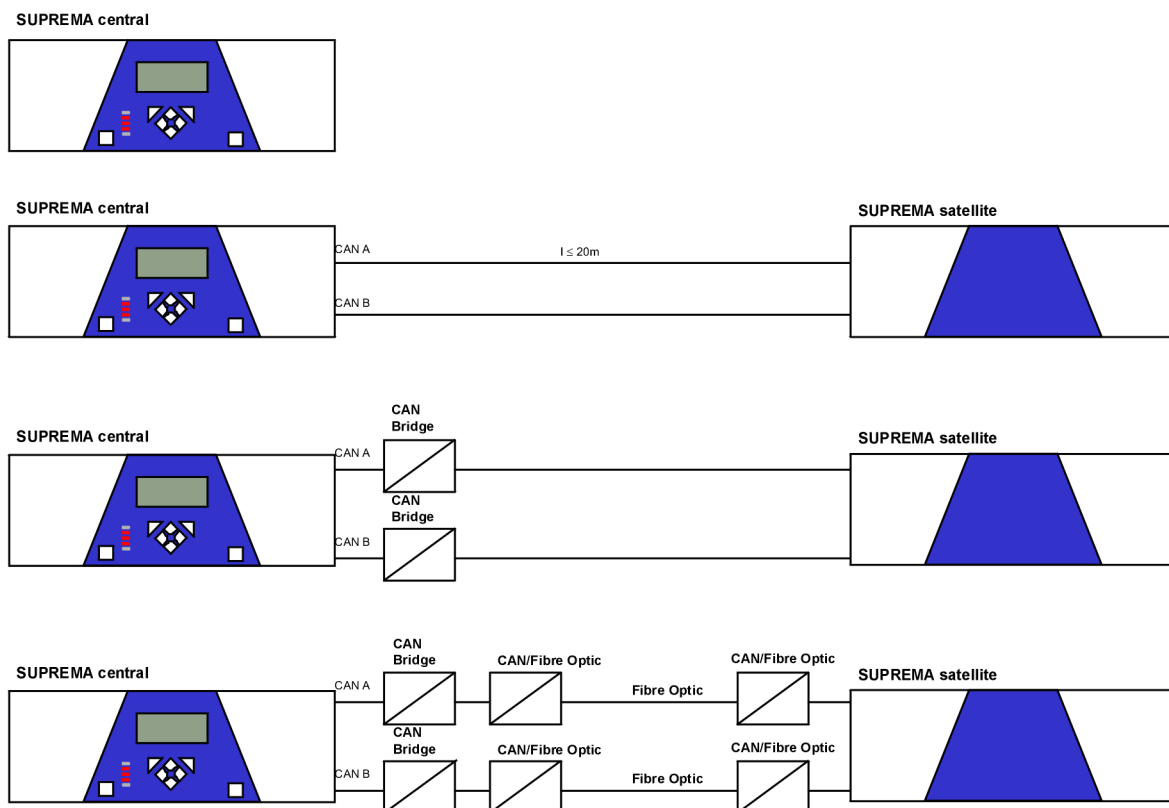
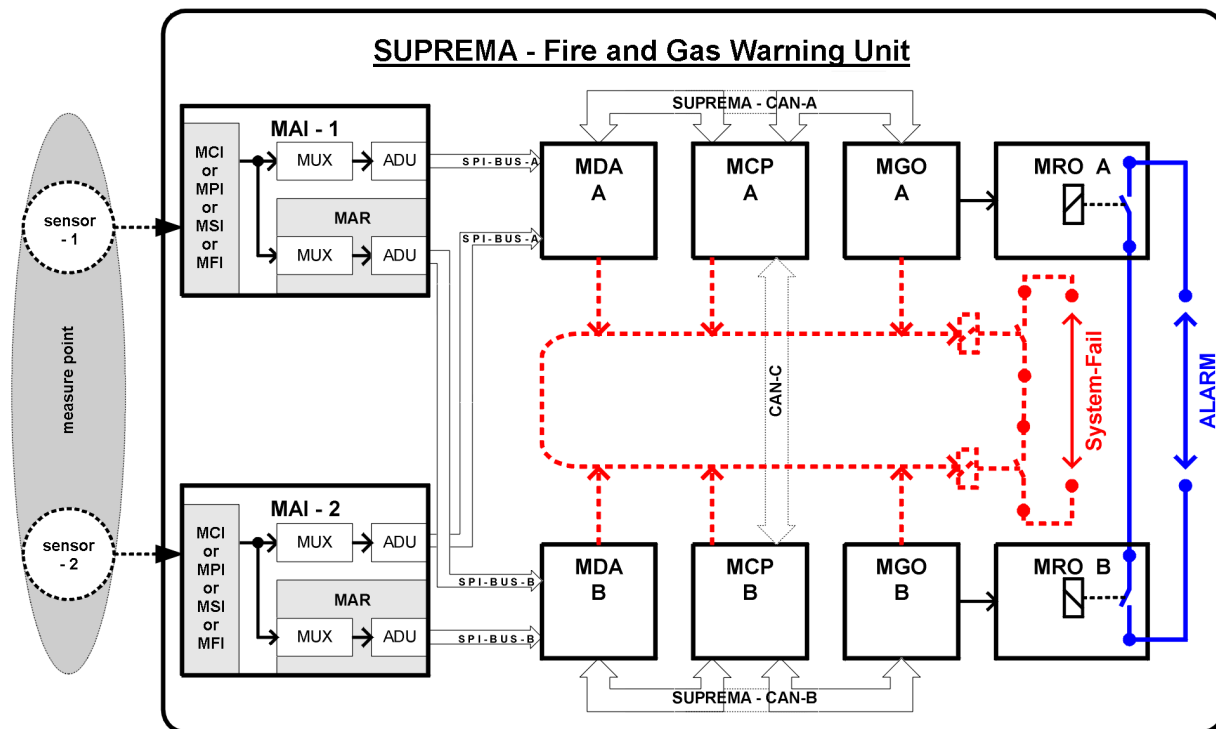

Figure 15-1: System variants for SIL 3
Figure 15-2: Safety-related signal path from the inputs up to the alarm relays
3. For SIL 3 applications a redundant configuration must be installed in accordance with figure 15-1 and figure 15-2. (For higher availability a third processor card may be used).